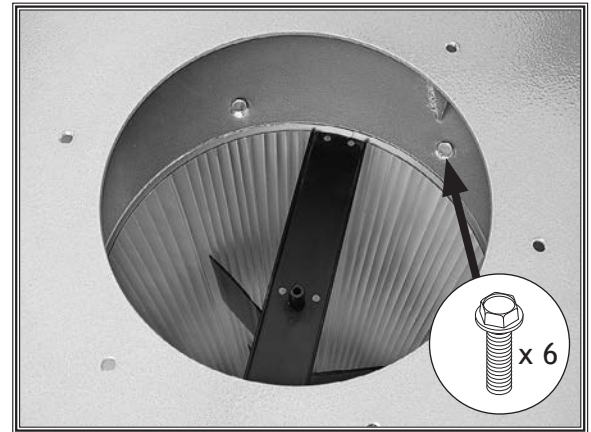

Figure 24. Canister filter attached to impeller housing.
25. While assistant holds canister filter under impeller housing, reach into impeller housing and attach canister filter to impeller housing with (6) $\frac{5}{16}$ "-18 x $\frac{1}{2}$ " flange bolts (see **Figure 24**).